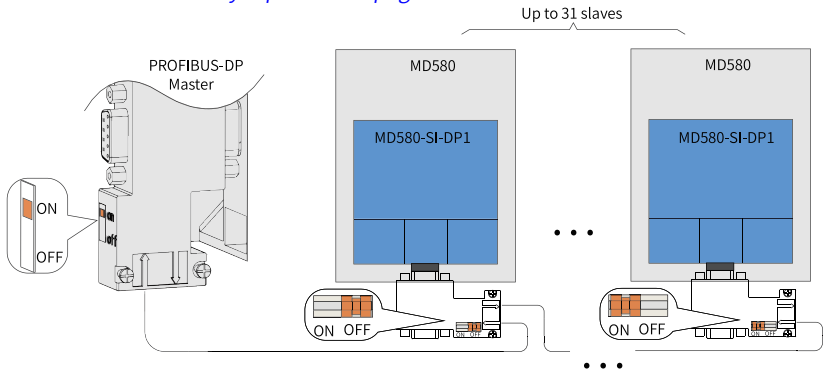

Figure 6-59 Multi-device system connection without any repeater
- For multi-device system connection without any repeater, connect termination resistors at the head and end, as shown in *"Figure 6-59 Multi-device system connection without any repeater" on page 131.*